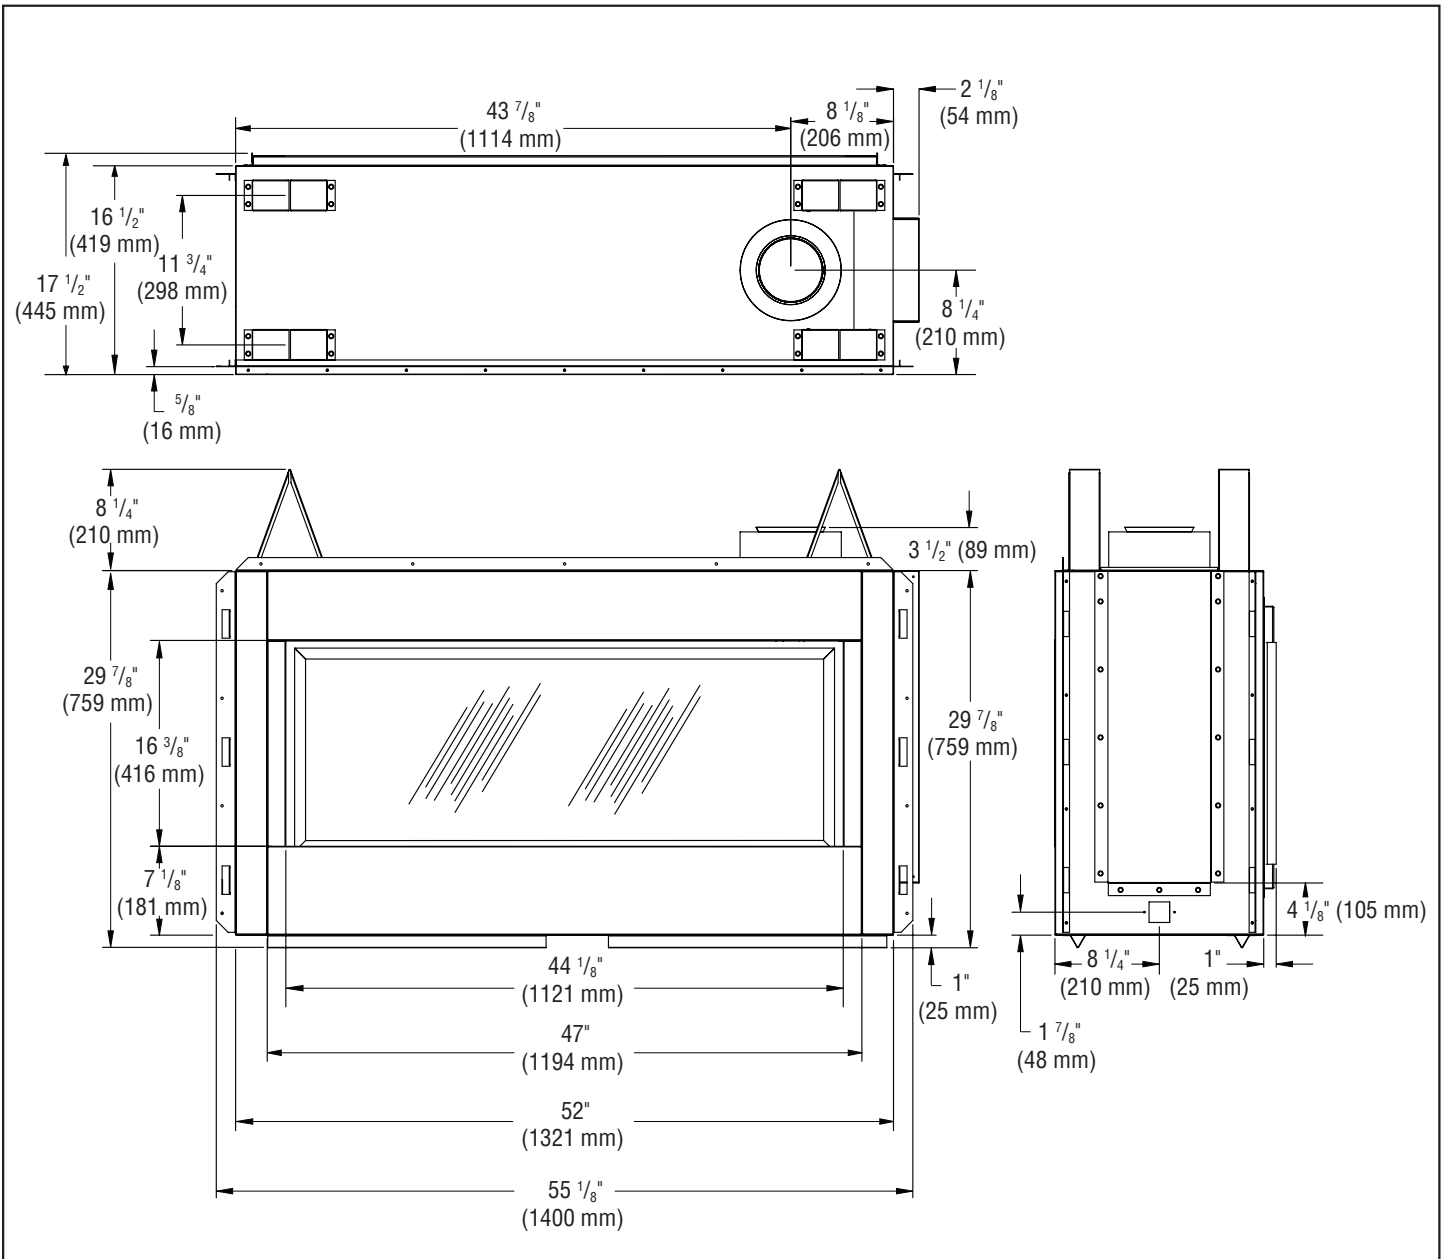

Figure 6 - DRL4543 Fireplace Series Dimensions
- If your fireplace is to be installed directly on carpeting, vinyl tile or any combustible material other than wood, it must be installed on a metal or wood panel extending the full width and depth of the fireplace (see Figure 6, page 11).
*Please refer to overall fireplace width (Figure 6, page 11) before rough framing construction.